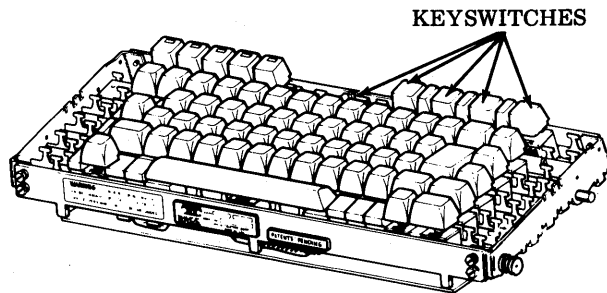

Fig. 14—Keyswitch Identification
- (b) Remove INTERLOCK, PRINTER TEST, PARITY, DUPLEX and CPS keyswitches (Fig. 14). (Refer to D. Keyswitches.)